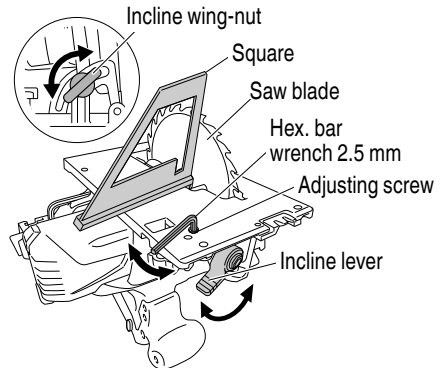

Fig. 35
6. Adjusting the base and saw blade to maintain perpendicularity (Fig. 35)